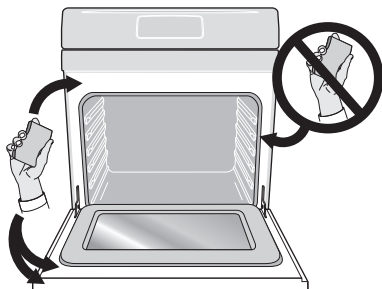

Figure 15: Clean around the oven door gasket
- Do not clean the oven door gasket (Figure 15). The woven material of the oven door gasket is essential for a good seal. Care should be taken not to rub, damage, or remove the gasket.
- Clean any soil from the oven frame, the door liner outside the oven door gasket, and the small area at the front center of the oven bottom. These areas heat sufficiently to burn soil on. Clean with soap and water. These areas are shown in white (Figure 15).